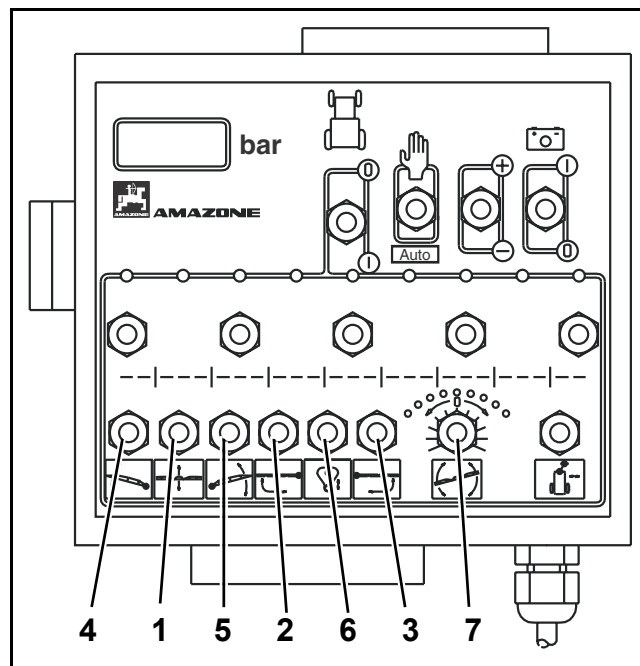

Fig. 110
- Keep the switches (Fig. 110/4 and Fig. 110/5) in position "tip angling" until both boom packs have been folded down **horizontally**.
- Keep one of the keys (Fig. 110/2 or Fig. 110/3) in position "folding out" until the individual segments have been unfolded completely. The relevant hydraulic rams lock the boom into the operational position.
- **Unlock the swing compensation via the key (Fig. 110/6) (please refer to para. 8.3.2.4).**
- Set the spraying height of the boom via the key (Fig. 110/1) for the hydraulic height adjustment.
- Lift the boom into a middle height by pressing key (Fig. 110/1).
- **Lock the swing compensation via the key (Fig. 110/6) (please refer to para. 8.3.2.4).**
- Keep one of the keys (Fig. 110/2 or Fig. 110/3) in position "folding in" until the individual segments have completely been folded in and both boom packs have been folded upwards.
- Keep keys (Fig. 110/4 and Fig. 110/5) in position "folding in" until the individual sections have been completely folded and the two folded boom packs have been folded upwards.
- Keep keys (Fig. 110/4 and Fig. 110/5) in position "folding in" until the individual sections have been completely folded.
- Keep the keys (Fig. 110/2 and Fig. 110/5) in position "tip angling" until both boom packs have been folded upwards.